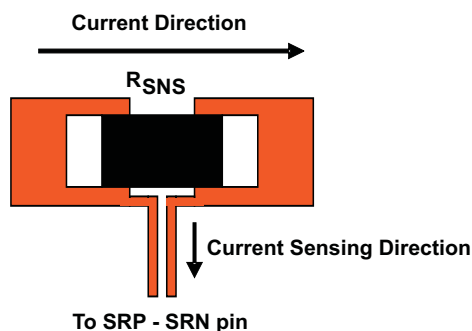

Figure 19. Sensing Resistor PCB Layout
4. The charging-current-sensing resistor should be placed right next to the inductor output. Route the sense leads connected across the sensing resistor back to the IC in same layer, close to each other (minimize loop area), and do not route the sense leads through a high-current path (see Figure 19 for Kelvin connection for best current accuracy). Place the decoupling capacitor on these traces next to the IC.